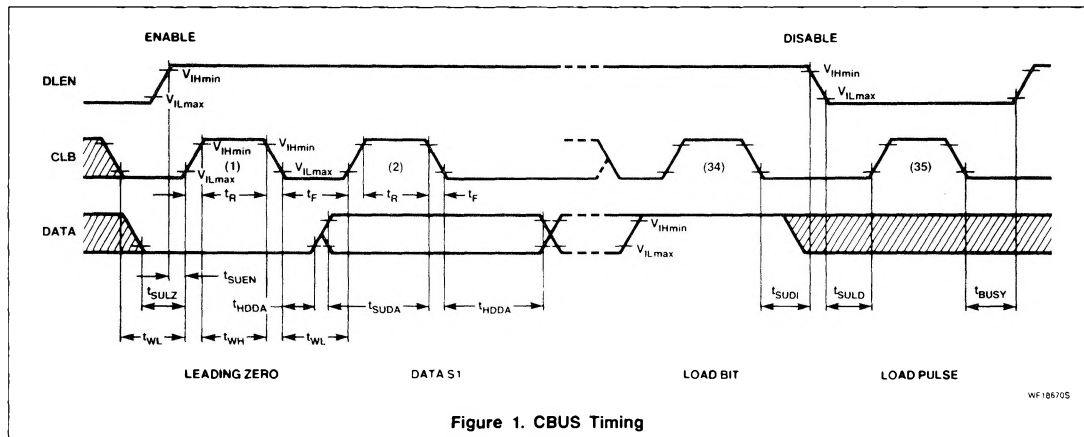
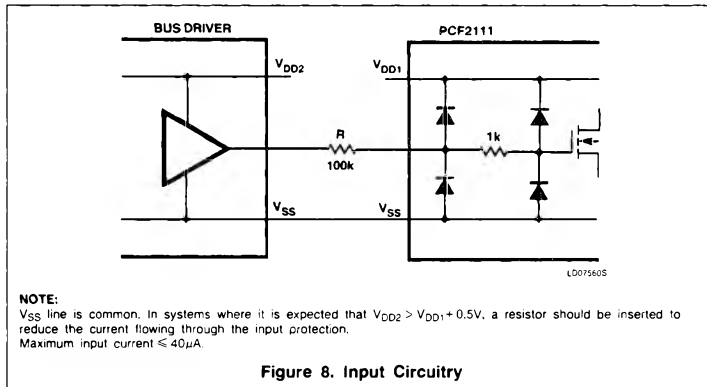

Figure 1. CBUS Timing
Figure 8. Input Circuitry
1. All timing values are referred to V_{IHmin} and V_{ILmin} (see Figure 1). If external resistors are used in the bus lines (see Figure 8), the extra time constant has to be added.